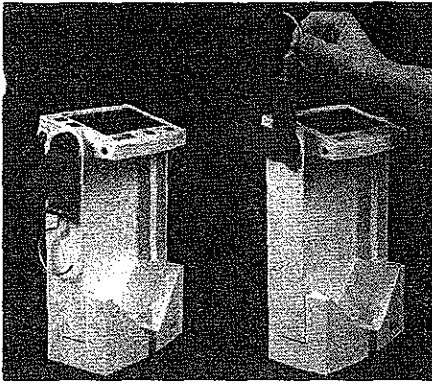

Figure 42
2. Turn the Monitor so that you are facing the front. Note the range of movement for each arm. The arm should rest as the left Monitor in Figure 42 indicates, and move freely to the position shown in the right Monitor in Figure 42. If the arm does not move freely, inspect the bearing to see if it is contaminated.
**Note:** Ensure that the hook is installed with the proper orientation. With the Monitor facing you and the arms hanging down, the hook(s)- openings should face towards the front of the Monitor (see left Monitor in Figure 42).